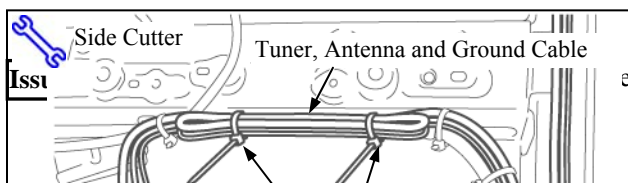

Fig. 7-7
- (5) Even out the length of the cables and secure the tuner cable, antenna cable and ground cable with the two (2) lock ties. (Fig. 7-7)